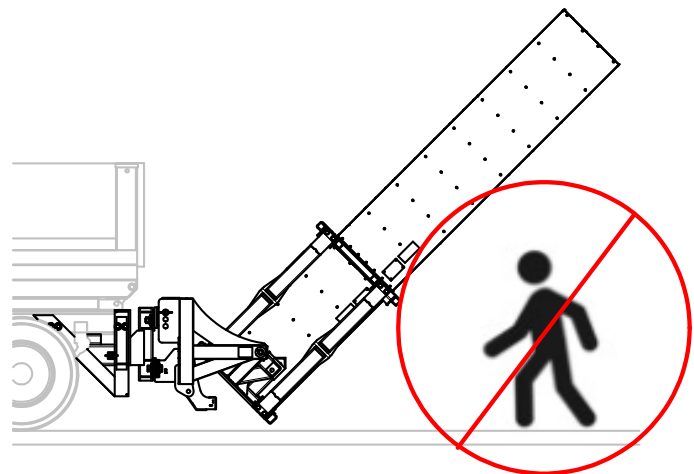

Figure 6
5. Be sure all persons are standing clear before raising or lowering the TMA. No one should be below the system when lowering it. Be sure the system is stopped and locked in full up position before allowing anyone directly behind the elevated system (Figure 6).